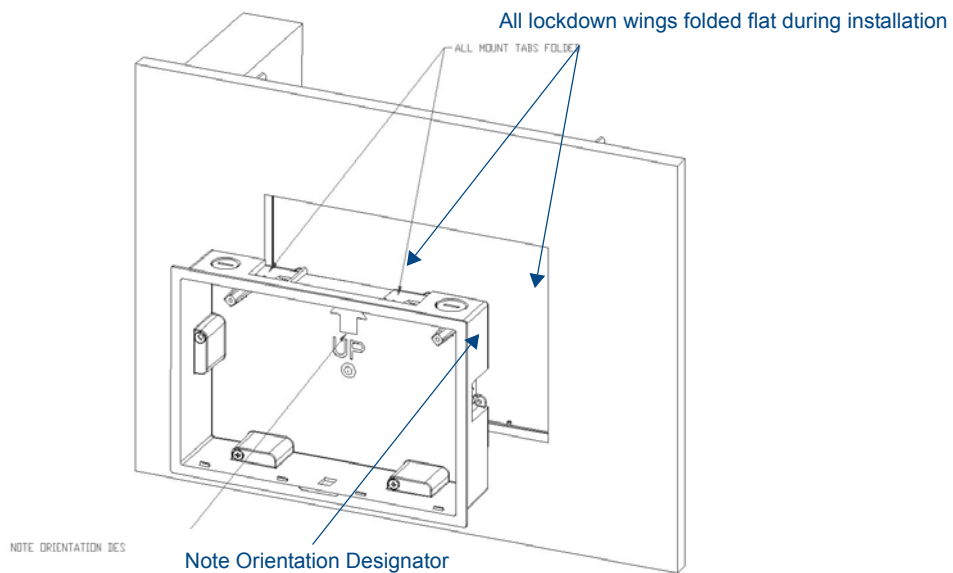

FIG. 8 Installation of plastic back box
4. Slide the plastic back box into the hole, being careful not to twist or pinch the cable, and set it flush with the wall (FIG. 8). Make sure that all of the lockdown wings are folded into their slots before attempting to insert the box. For ease of installation, the inside of the box has the direction "UP" labeled for reference.